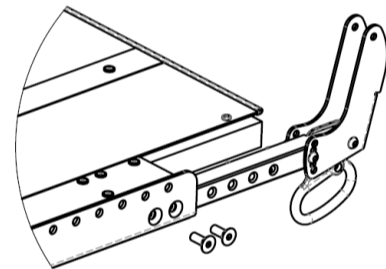

Figure 14.5: Adjusting the seat depth
1. Loosen and remove the two 5/16-18 flat head fasteners on each side (see Figure 14.5).